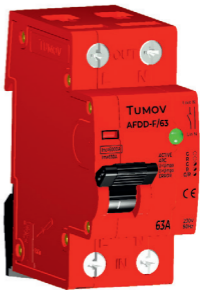

Fig. 1. Device
- 3.1 The DEVICE (Fig. 1) is non-separable, device body with screw terminals for the input and output of the phase and neutral lines, the control board and the mechanism of free decoupling of the input and output contacts of the phase line tripped by its command inside.